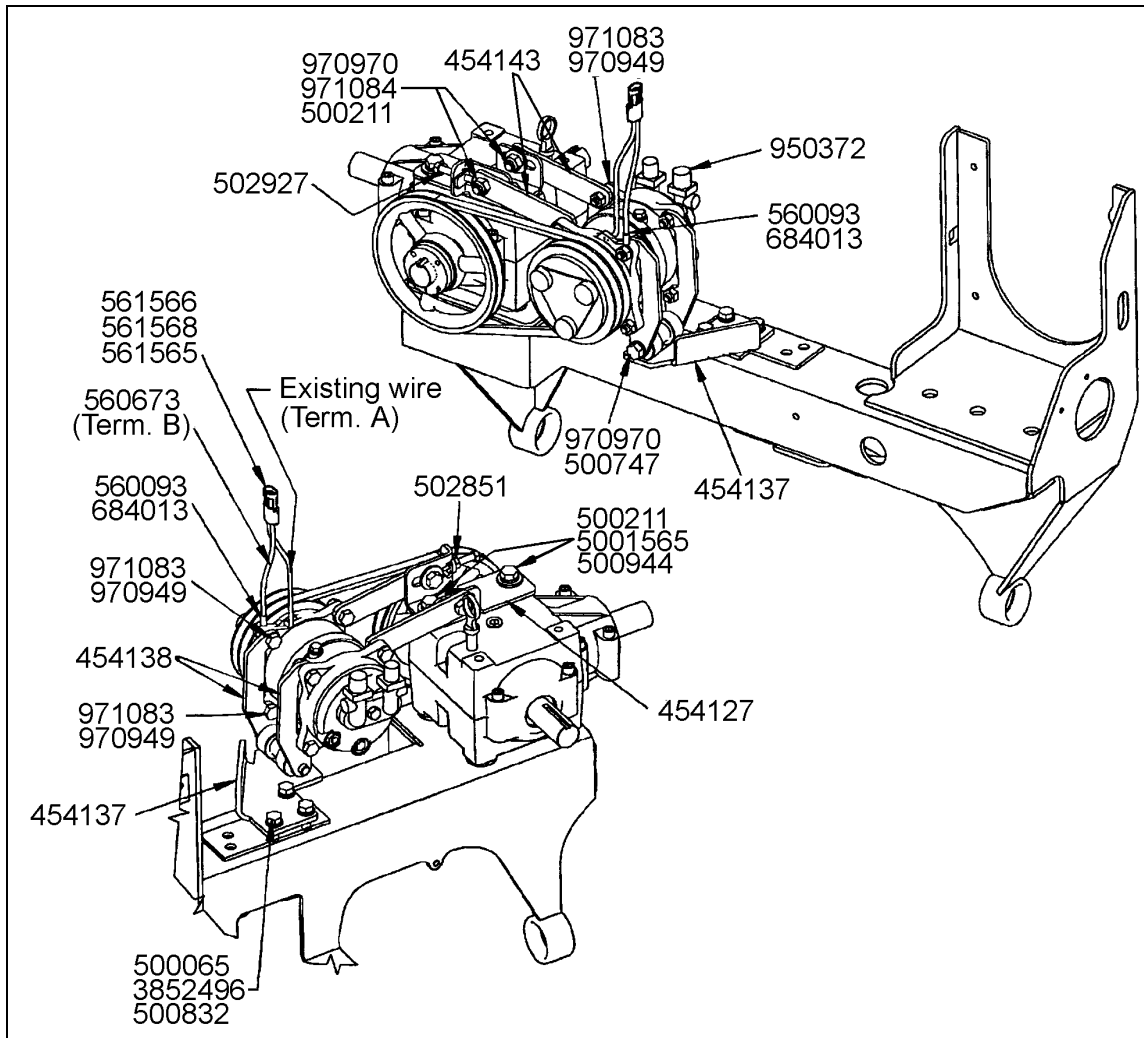

FIGURE 5: COMPRESSOR INSTALLATION
14. Install compressor electrical wires and connect to compressor mounting (Refer to figure 5). Due to harness length, the high pressure switches may have to be inverted. If they are not connected properly the fan goes into high speed immediately on start-up.